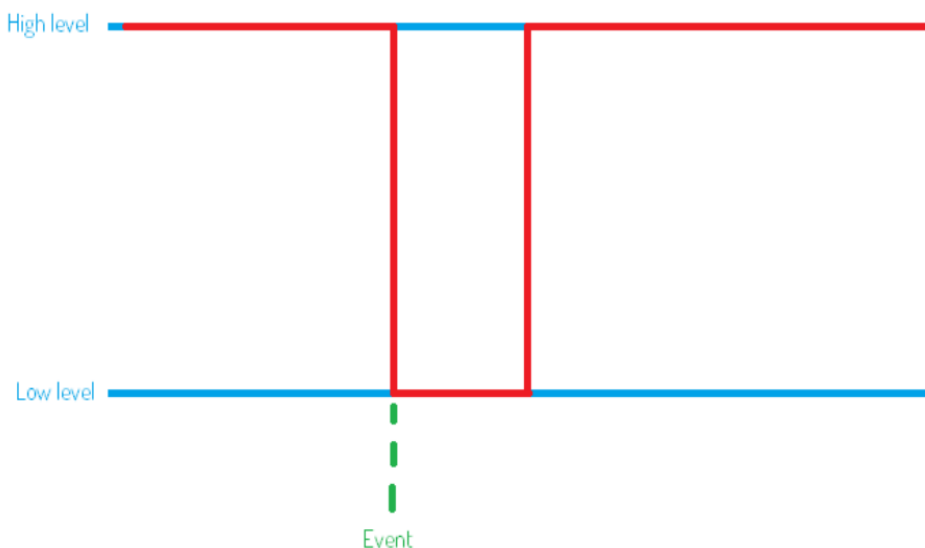

Figure 88. Trigger out setup for pulse low.
- Pulse Low (PL) – Each event is signalled by a signal transition from high to low then shortly low to high (Figure 88)